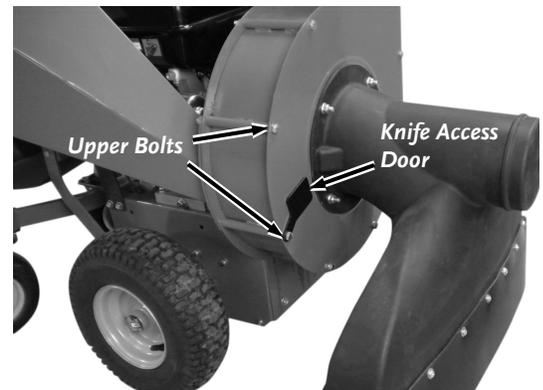
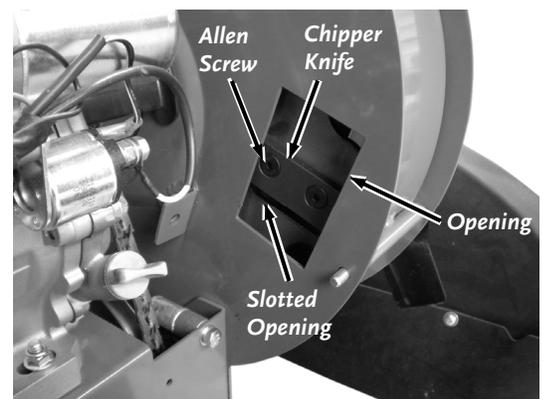

Figure 38
Figure 39
3. Support the Hopper as you remove the Two Lock Nuts from the upper Bolts that secure the Hopper to the Impeller Back using two 1/2" Wrenches. Leave the Bolts in place and let the Knife Access Door swing down, out of the way. Remove the Hopper (**Figure 38**).
5. Insert a 3/16" Allen Wrench into the head of the Allen Screw (**Figure 39**), then with access through the Knife Access Door opening (**Figure 38**) remove the Nuts that that secure the Knife to the Impeller using a Ratchet with 1/2" Socket and 6" Extension.
9. Install a new or sharpened Knife with the sharp edge toward the slotted opening (**Figure 39**). Install In reverse order of removal, inserting the Screws first.
13. Position the Knife Access Door to cover the access opening in the Impeller front using a 1/2" Wrench to help rotate the Access Door (**Figure 38**).